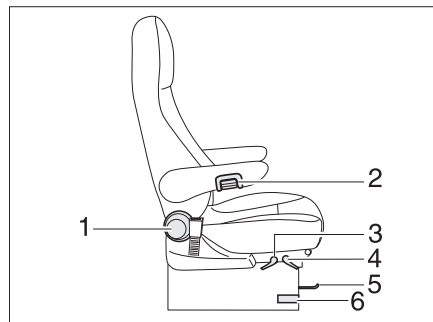

Fig. 88 Driver's and front passenger's seats
- Push or pull the lever to turn the seat (Fig. 88,6). The seat is released from the locking device.